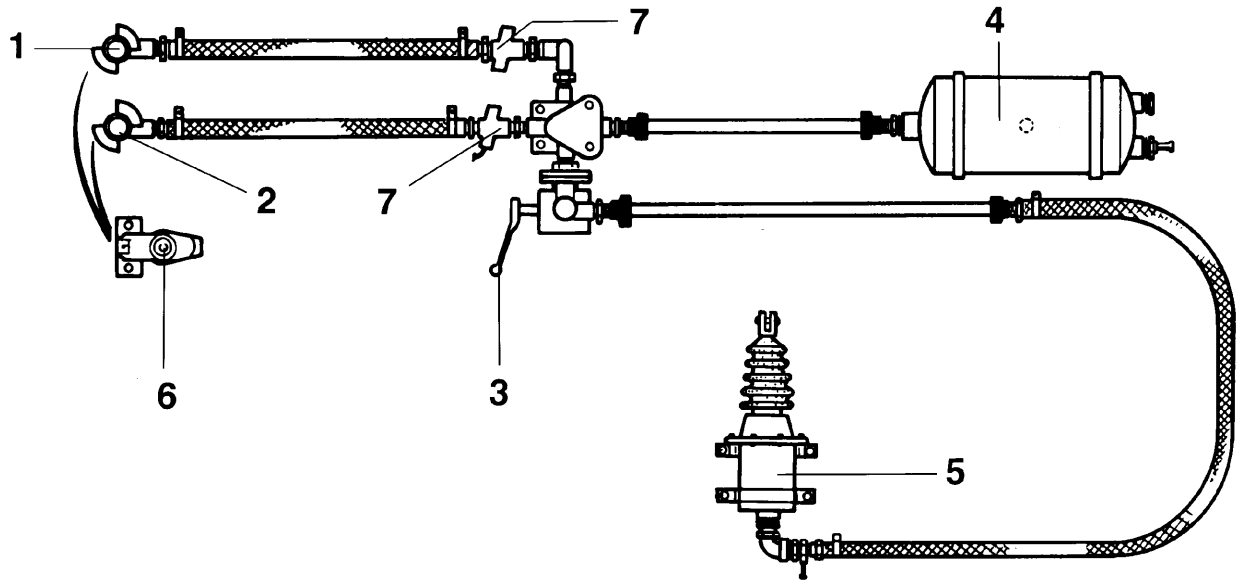

Fig. 63
2. Check cleanliness of coupling heads before coupling and pay attention to a proper fitting! The hose coupling (Fig. 63/1) for the brake line has a yellow marking. The hose coupling (Fig. 63/2) for the supply line has a red marking.
4. Check hand brake position (Fig. 63/3) of braking power governor!
5. If necessary, drain the compressed-air container (Fig. 63/4)!
7. Check the piston stroke of the braking ram! Only two thirds of the braking rams stroke (Fig. 63/5) may be used. If this is not the case, adjust the brake! Replace damaged dust covers!
8. After coupling off, hang the coupling heads into the dead couplings (Fig. 63/6) on the **ZG-B**!
1. Hydraulic socket and hydraulic plug (Fig. 63/7) for cleanness before coupling and observe proper fitting!